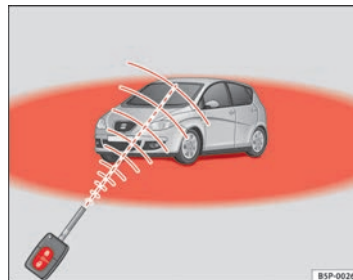

Fig. 63 Range of the radio frequency remote control
- The radio frequency remote control functions only when you are in range ⇒ Fig. 63 (red area).